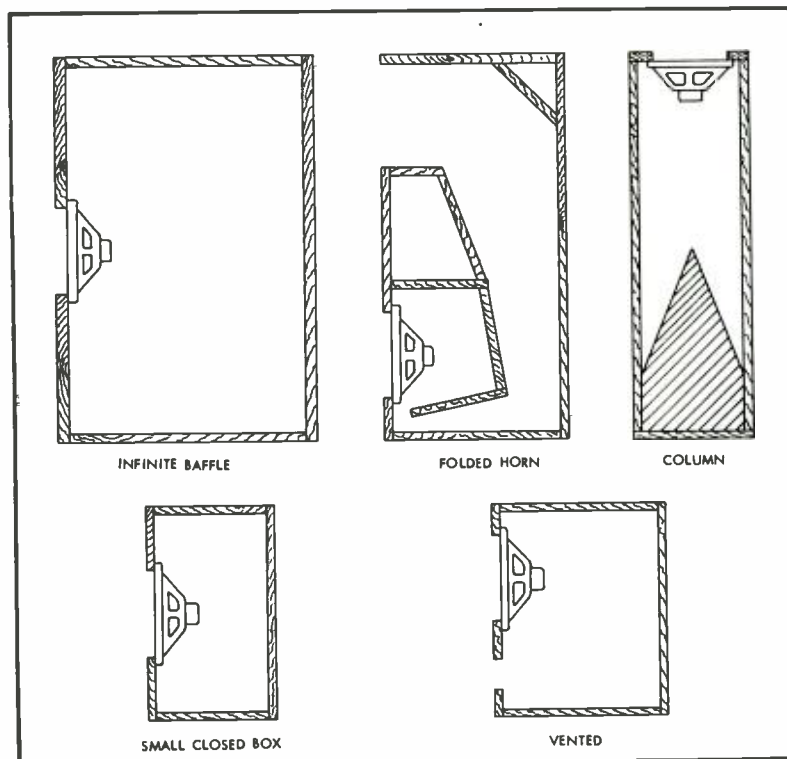
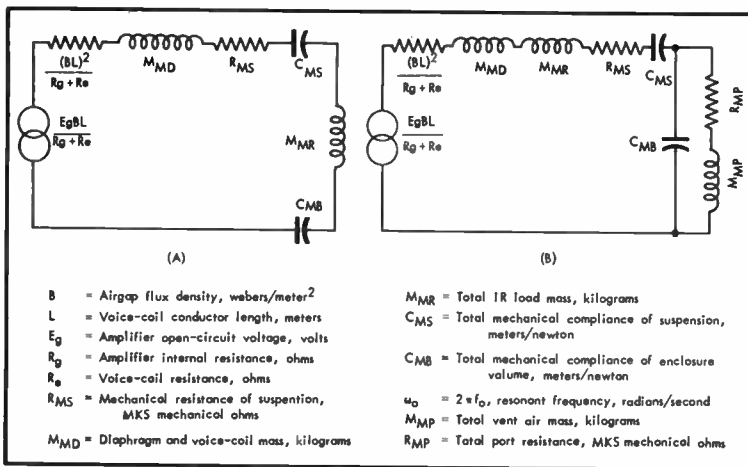

Fig. 1. Basic types of speaker enclosures.
Fig. 2. Mechanical equivalent circuits of direct radiator speakers in: (A), closed box, (B), in vented enclosure.
One of the principal factors leading to the choice of the 45/45 system as the R.I.A.A. Standard was the fact that in-phase information on the two channels could be made to appear as lateral modulation, making the system completely compatible with existing lateral monaural recordings. When two microphones are used with close spacing as they are in the X-Y system, *Fig. 1*, the dominant acoustical information is in-phase, particularly at the low frequencies. According to the R.I.A.A. Standards, this in-phase information should appear on the record as lateral modulation. In the M-S system of recording, *Fig. 2*, using vertical-lateral channels as opposed to 45/45, the output of the "M" micro-
Fig. 1. "X-Y" type of studio pick-up. Two figure-eight pattern microphones, such as ribbons, are used 90 deg. apart, each inclined 45 deg. to the sound source. The two outputs become the right and left modulations of the 45/45 stereo groove.
Fig. 2. "M-S" type of studio pick-up. As applied to vertical-lateral stereo disc recording, the M microphone feeds the lateral channel, and the S microphone feeds the vertical channel. For 45/45 stereo disc recording, the two microphone outputs may be combined vectorially as $M+S$ and $M-S$. In either case, the M microphone output appears as lateral modulation on the disc.
kinship or identity with enclosure systems described and analyzed long ago in such classics on acoustics as handbooks by Olson, Beranek and others. There has been no basically new type of enclosure in this decade, but much worthwhile effort has been devoted to refinement and improvements of existing basic types. There are few basic types of enclosures for the dynamic speaker. These are, as shown in Fig. 1:
The power radiated at low frequencies and the shape of the response curve are determined by the Q of the complete loudspeaker system, which includes the speaker, enclosure, and amplifier. (A) in Fig. 2 shows the low-frequency equivalent mechanical circuit of the complete closed-box system.